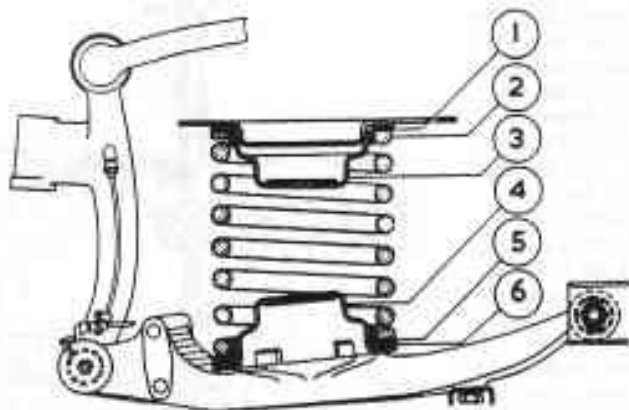

FIG. H19. FRONT SUSPENSION SPRING IN POSITION.
- (ii) Place the lower end of the special tool No. 3752/T1002 on the studs of the front stabiliser bracket, with claws fitting under the lip (edge) of the hole in the top of the front pan. Tighten knurled nuts to secure. Compress the spring then fully tighten spring retaining bolt. While compressing spring, guide threaded end of retaining bolt through the hole in the lower buffer stop leaving the spring in position (Fig. H19).
- (iii) With the fabric seatings (1 and 5, Fig. H19), bump stop and adjusting washers (if required), in position, fully compress the spring. Remove the centre bolt from the "Pot", and in its place fit the retaining bolt, and fully tighten the nut.